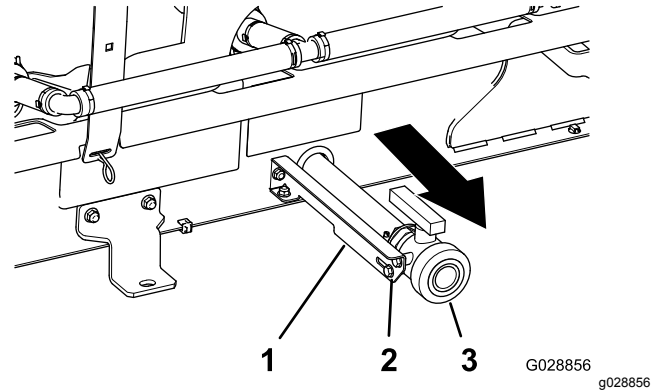

Figure 11
- At the left side of the tank, loosen the 2 flanged-head bolts that secure the drain valve to the valve-support bracket (Figure 11).
- Move the drain valve fully outward in the slots of the bracket (Figure 11).
- Tighten 2 flanged head bolts (Figure 11).